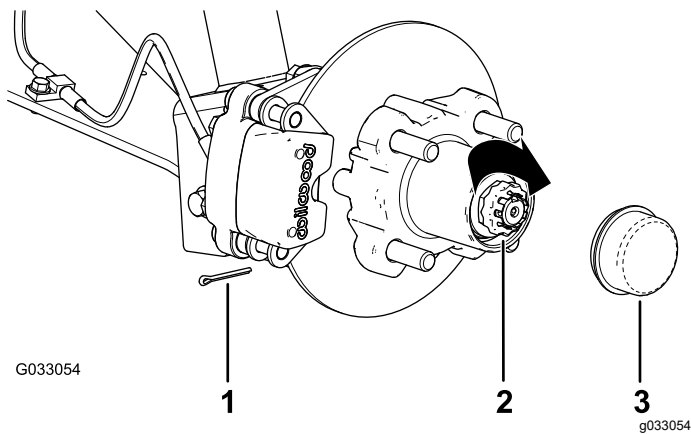

Figure 28
8. Install the retainer over the nut and check the alignment of the slot in the retainer and the hole in the spindle for the cotter pin (Figure 28).
9. Install the cotter pin and bend each leg around the retainer (Figure 28).
10. Install the dust cap onto the hub (Figure 28).